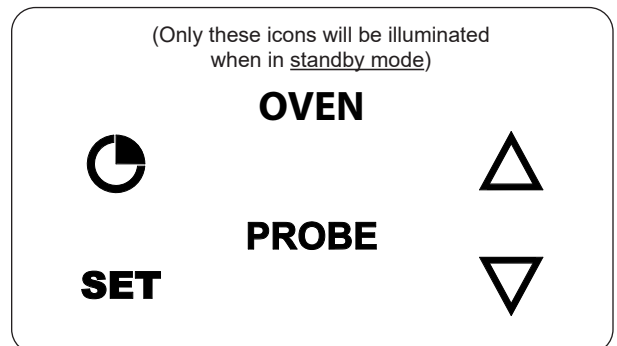

Fig. 36-3 Standby mode
**Press thermometer power switch to turn ON:** The digital controls will illuminate and the thermometer/thermostat will wait in “standby mode” until turned on for use. If the meat probe is plugged in, PROBE will also illuminate. See Fig. 36-3.